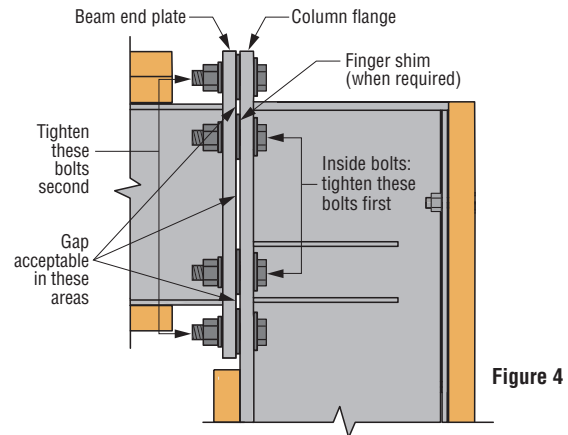
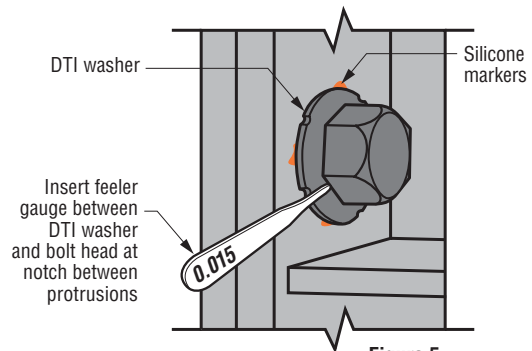

Figure 4
Figure 5
3. Once all bolts are snug-tight, calibrate the DTI washers by fully tightening one of the four inside bolts (*see Figure 4*). Proper installation pretension is reached when the 0.015" feeler gauge can no longer be inserted all the way into the bolt shank at three or more of the five notches between the silicon markers (*see Figure 5*). Remember to make sure the bolt head does not turn while the nut is turned.
4. Tighten all bolts, starting with the most rigid part of the joint (*typically the three remaining inside bolts, and then the four bolts above and below the beam*) (*see Figure 4*). The proper installation pretension is reached when the amount of squirt from the silicon markers matches the washer from the calibration in Step 3. When tightening bolts, make sure the bolt head does not turn while the nut is turned.
The finger shims provided may be used to adjust the connection between the beam end plate and column flange. For a gap of 1/8" or less under the bolt head (*see Figure 4*), draw plates together by tightening the bolts until plates are in firm contact. If the gap exceeds 1/8", shims must be installed. Gaps away from the bolt heads are permitted. If the connection plates cannot be drawn together sufficiently by tightening the bolts, additional shims are required. Total thickness of shims under each bolt head must not exceed 1/4". To install shims, loosen connection bolts and slide provided shims around the bolts where necessary. Make sure shims do not protrude beyond the outer edges of the connection plates, and re-tighten bolts.